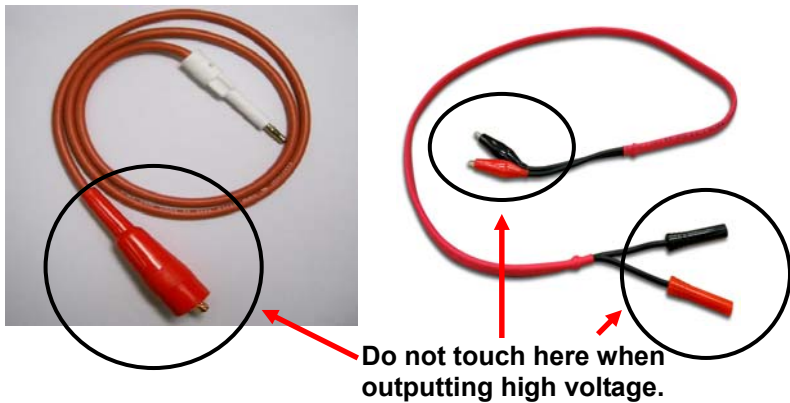

Figure 2-4
- \* Do not touch the alligator clip on the test cable as Figure 2-4 shows. When the host is in test state the insulation of rubber shield on it is not enough; therefore it is hazardous to touch it.